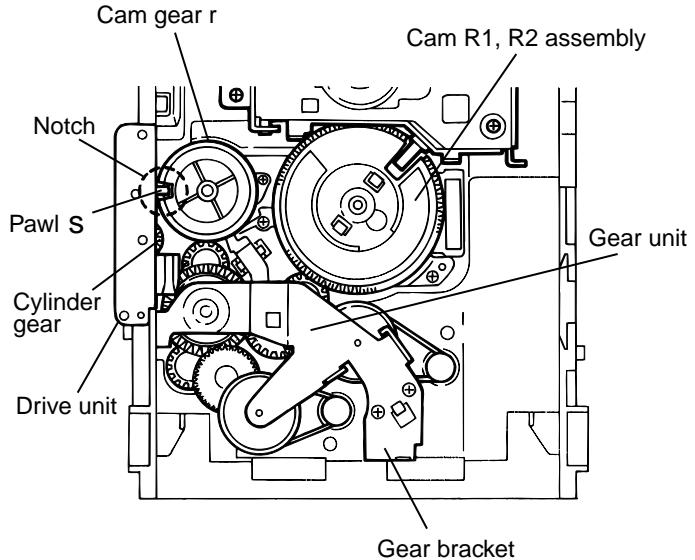

Fig.24
**[Caution]** To retassemble the cylinder gear, etc. with the cam unit (cam gear and cans R1/R2 assembly), gear unit and drive unit, align the position of the pawl "s" on the drive unit to that of the notch on the cam gear r. Then, make sure that the gear unit is engaged by turning the cam gear r (See Fig. 24).